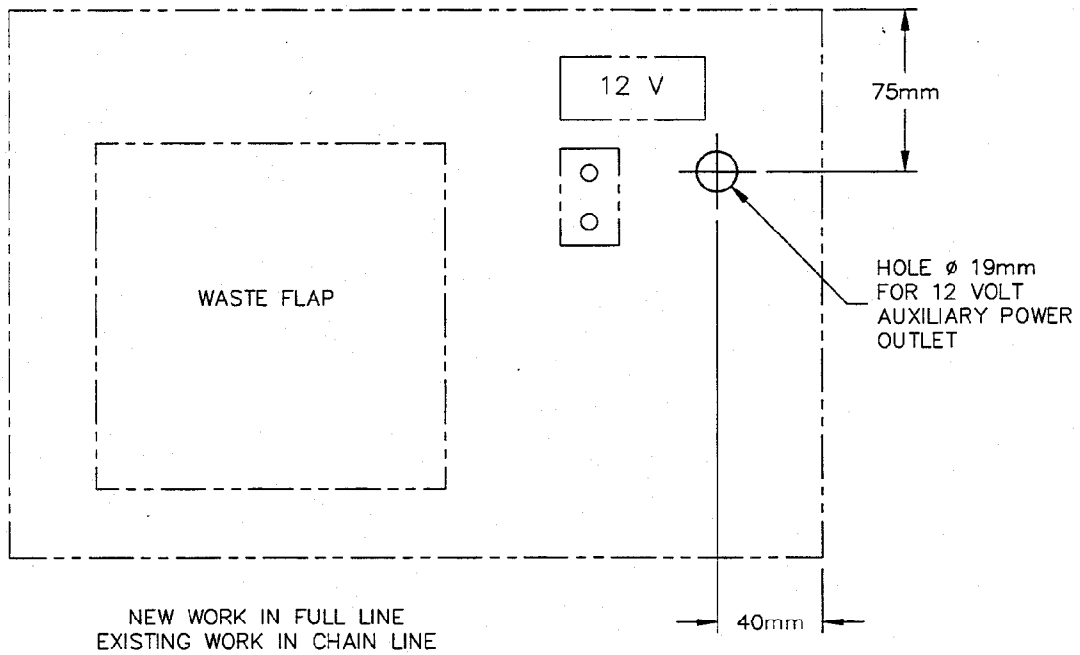

Figure 3 - Location of Mounting Holes
- d. Measure the location of the mounting hole; ie 40 mm from the sidewall and 75 mm from the top (refer Fig 3).